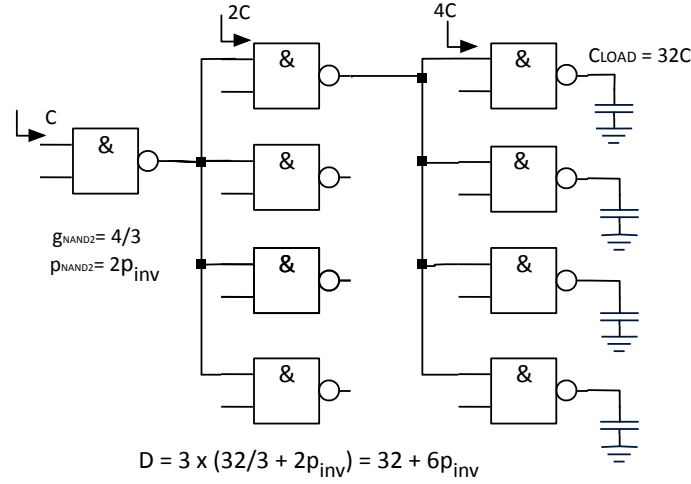

Figure 12: The clock-tree path delay problem with final sizes and the path delay computed.
- a) The solution is shown in Figure 12.
- b) This solution is also shown in Figure 12.